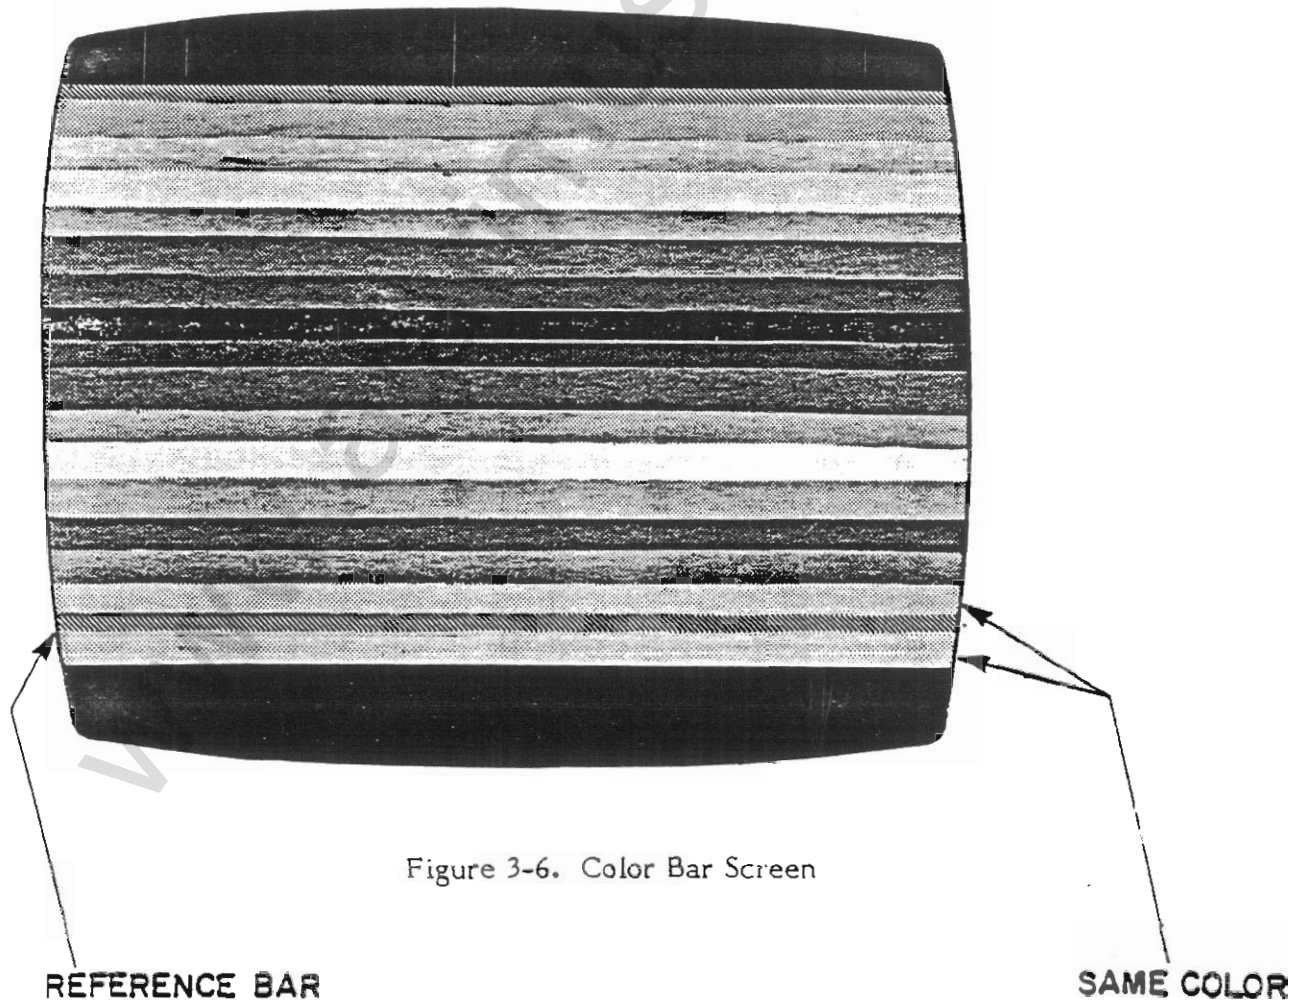

Figure 3-6. Color Bar Screen
- **Format:** A screen of 15 horizontal color bars is displayed (See Figure 3-6). The screen should be steady and unchanging. A gray or blue horizontal reference line extends across the screen about four bars from the bottom. This reference line is thinner than the bars around it. R70 should be adjusted to the bars immediately above and below the reference line to within one shade of each other. (The bars should be goldenrod in color.) Proper operation of the unit is indicated by being able to make this adjustment and by consistent color within the entire span of each bar on the screen. Minor glitches on the edges of the color bar are acceptable. Leave this test on for at least 60 seconds in order to catch any intermittent problems, such as a bar momentarily changing colors or blanking out.
Figure 3-6 is a black and white representation of a color television screen.